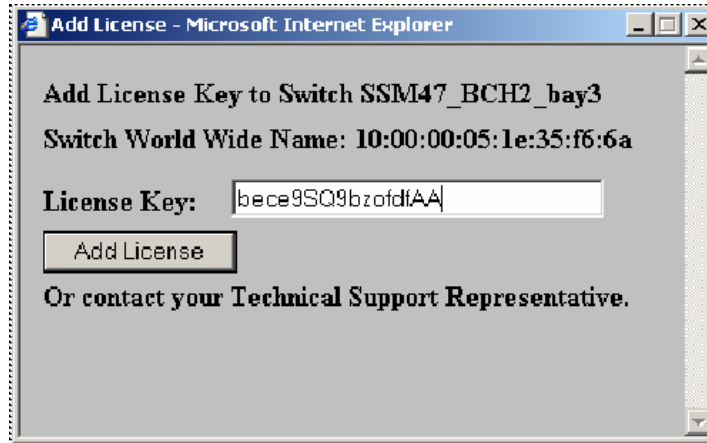

Figure 5-16 Add License dialog window
7. The Add License dialog box appears (Figure 5-16), and you should type or paste the Feature Activation License Key in the field. Next, click **Add License**.